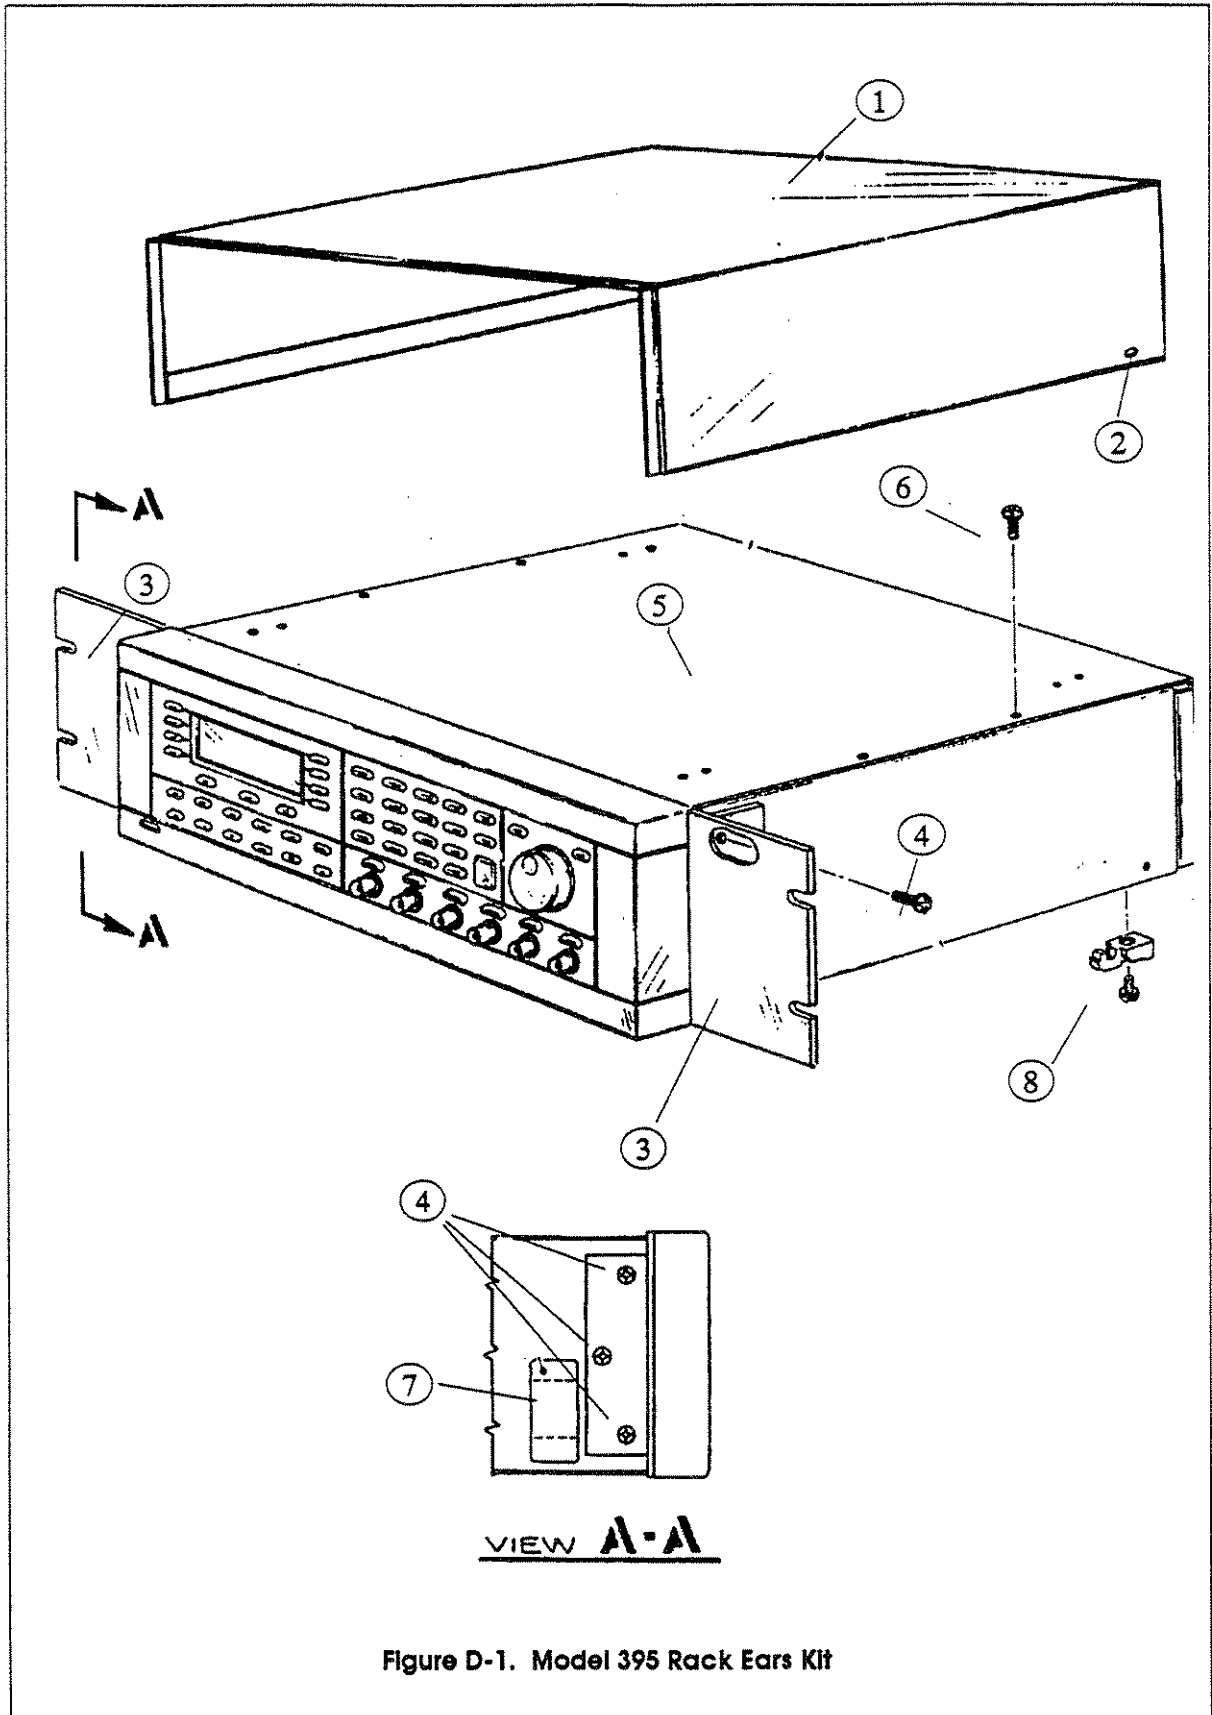

Figure D-1. Model 395 Rack Ears Kit
Refer to Figure D-1 Model 395 Rack Adapter Ears on the following page while performing these step-by-step instructions.
1. Install the new top cover (item 5) using four 6-32 x 1/4 screws (item 6).
2. Mount the Rack Ears (item 3, two places) as shown in figure D-1 using six 10-32 x 1/2 screws (three per side).
3. Remove the adhesive backing from the cover plate, and install the cover plate (item 7) over the hole shown in View A-A.